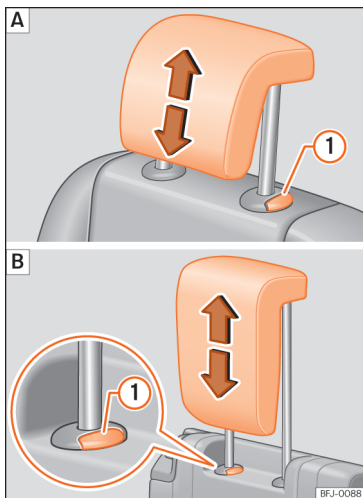

Fig. 95 Rear headrest: adjusting the headrest.
only necessary to press the button »» Fig. 95 ① to lower them »» ⚠ in Introduction on page 112.